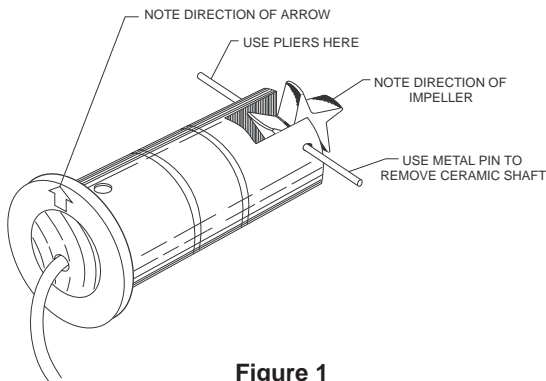

Figure 1
- 7) Refer to Figure 1. To reinstall, position the impeller in the cavity oriented as in Step 4 so that the impeller blades point into the flow direction and toward the small alignment hole located beside one of the sight-